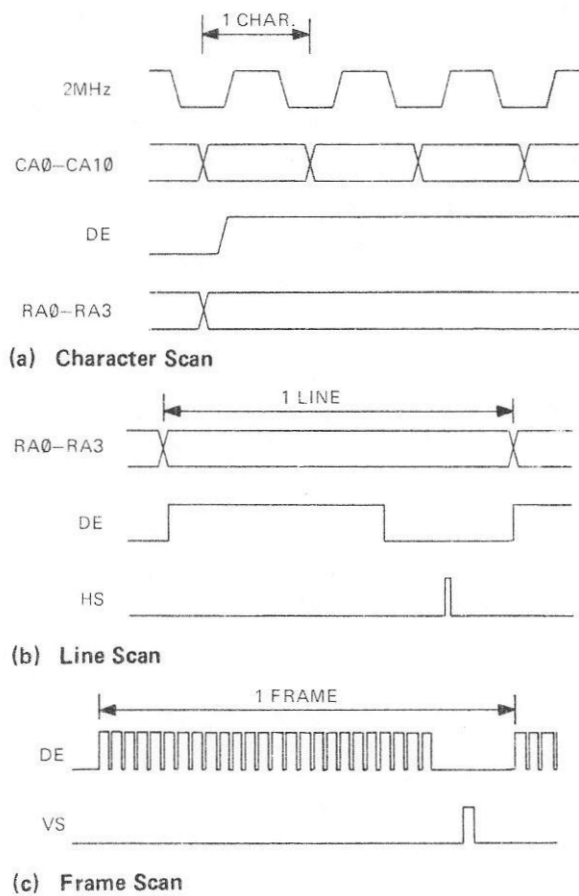

Figure 8. VDU Controller Scan Signals
The CA0—CA10 signals are connected via Multiplexers IC5, IC6 and IC7 to the RAM address inputs. The RA0—RA3 signals are connected directly to the Character Generator ROM IC13. The RA0—RA3 signals are all set to '0' at the beginning of the first scan line of a character row. The CA0—CA10 signals are set to the first character address in the row and then incremented at 2MHz, until the last character address in the row is reached. The Data Enable (DE) signal is set high during this time. Refer to timing diagram, Figure 8.